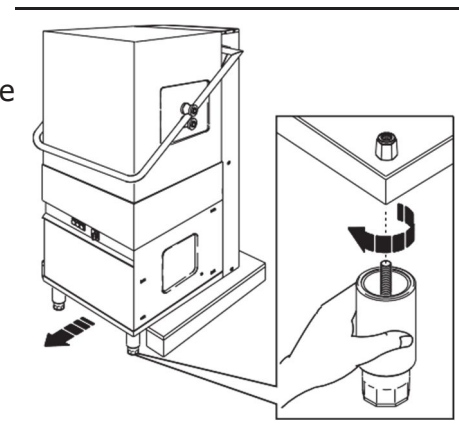

Fig. 4
3. Slide the machine on the pallet until freeing two of the four holes to insert the support feet (fig. 4).
Take one of the supplied feet and screw the screw into one of the two free seats (fig. 4).
Assemble the second leg following the same procedure (fig. 4).